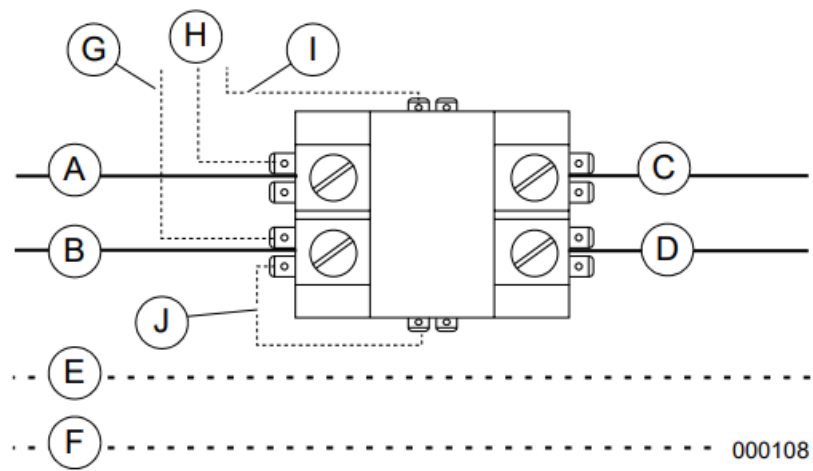

Figure 3-3. Wiring Diagram
4. See Figure 3-3. Connect line supply wiring (A, B) to the line side of SMM contactor field terminals. Tighten field terminals to 25 in-lbs (2.8 Nm).